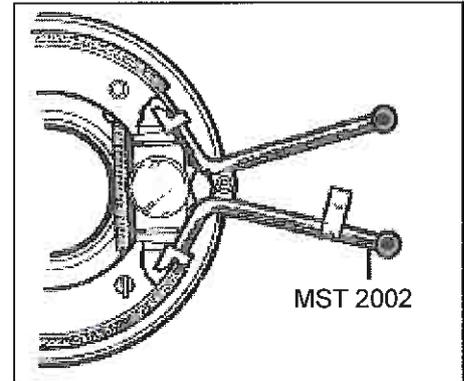

Fig 6
2. Carefully rotate the hub and tool to position the Shoe Expanding Tool (Part No. MST 2002) in the adjuster area (Fig. 6).